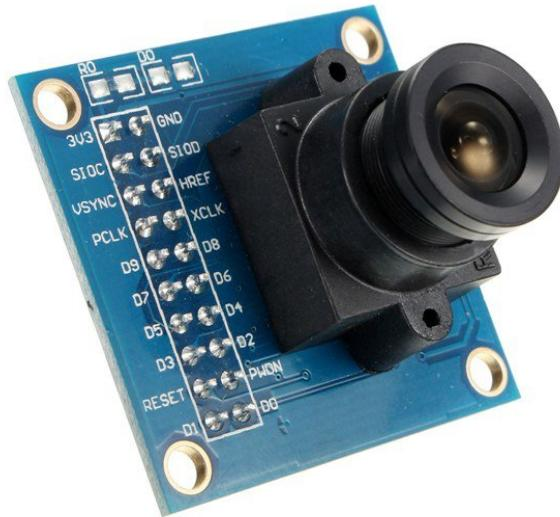

Figure 8.6: The OV7725 camera module
*Figure 8.6* shows a form of the OV7725 camera module. This module can work with a resolution of 640 x 480 and 60 frames per second in VGA